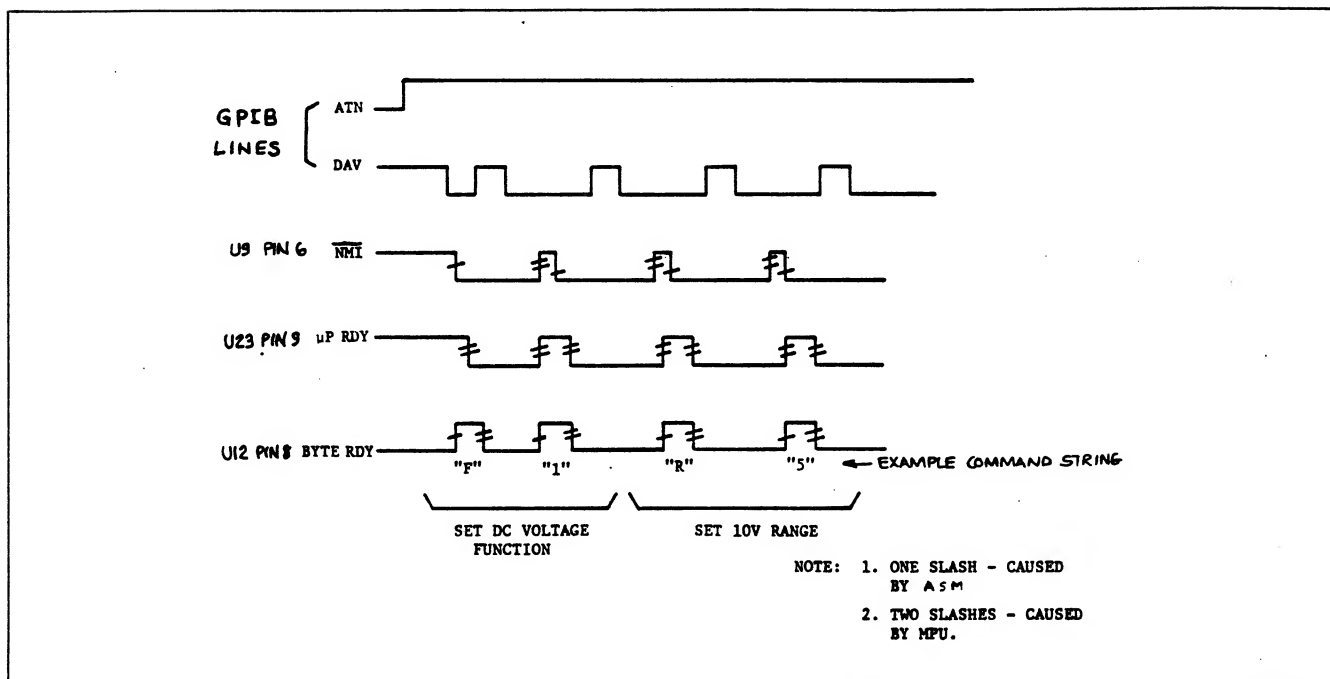

Figure 5.37 - GPIB Data Transfer to MPU
5.5.3.2.6 If the GPIB board is in the listen state and ATN returns high, the ASM will handshake any bytes made available over the GPIB. The GPIB board will then send an interrupt to the microprocessor, indicating that a byte is ready for the microprocessor. The microprocessor takes the byte and the ASM sets the Byte Ready line low. When the microprocessor is ready for another byte, it will set the MPU Ready line high and the ASM will transfer another byte of data. Figure 5.37 illustrates the timing relationships.